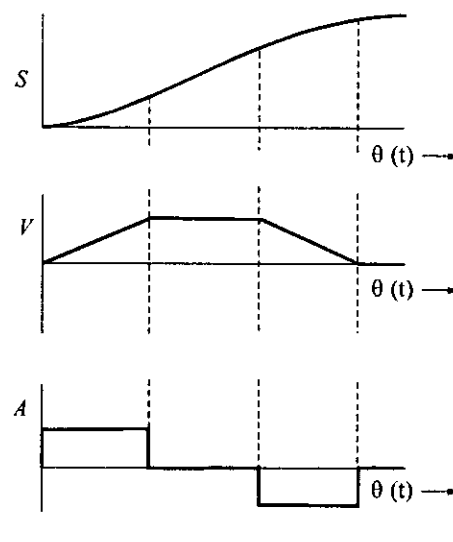

Fig. 8.11
**Modified uniform velocity :** (Refer fig. 8.11) The acceleration can be reduced to finite value by rounding off the sharp corners on the displacement diagram. The rounded corners are parabolic arcs. The velocity of the follower increases gradually to its maximum value at the beginning of the stroke and decreases gradually to zero at the end of the stroke. Although the acceleration have been reduced to finite values, as compared with uniform velocity motion, there still remain severe discontinuities which limit the usefulness of this motion.